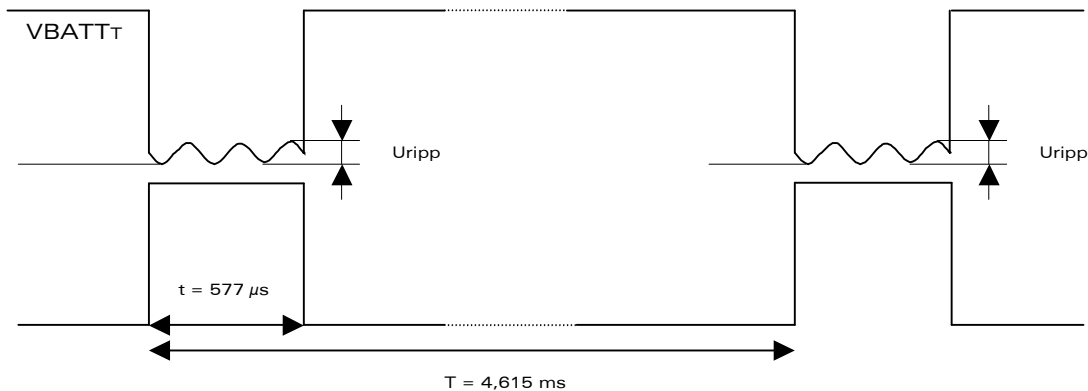

Figure 2 : Power supply during burst emission
- In communication mode, a GSM/GPRS class 2 terminal emits $577\mu s$ radio bursts every 4.615ms. (See Figure 2)